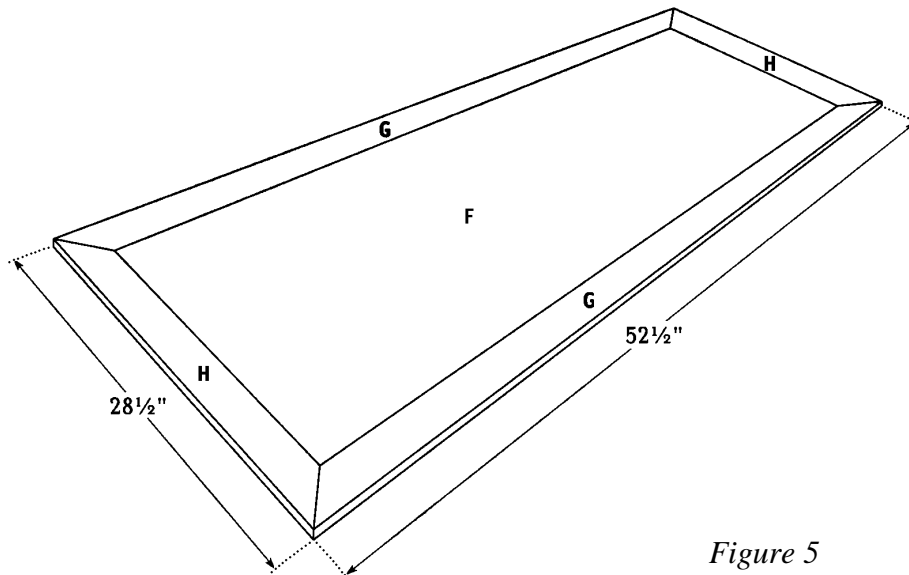

Figure 5
1. Trim the laminated Center Top (F) to 21-1/2 x 45-1/2 inches.
2. Cut two Long Top Sides (G), from 1 x 4 pine each measuring 52-1/2 inches.
3. Cut two Short Top Sides (H) from 1 x 4 pine, each measuring 28-1/2 inches.
4. Place the Center Top (F) on a level surface. Place the two Long Top Sides (G) on the long sides of the Center Top (F), as shown in *Figure 5*. Place the two Short Top Sides (H) on the short sides of the laminate Center Top (F). Apply glue to the meeting surfaces. Hold the assembled top in place using bar clamps, and set aside to dry for 24 hours.